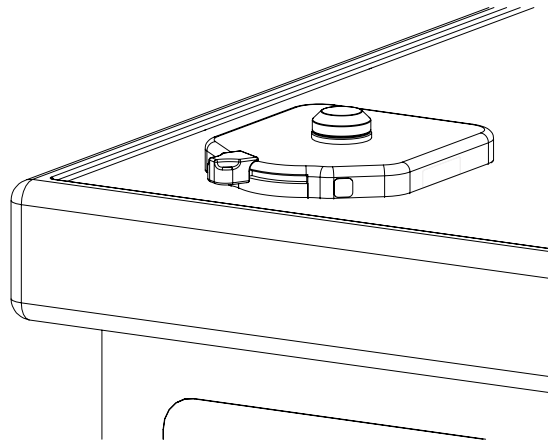

Figure 14: Installation of the Universal Mounting Base on a counter top/crash cart
4. Remove the drilling template and drill four (4) holes perpendicularly, using a drill and 13/64 in. D drill bit.
7. Place the Universal Mounting Base on top of the installation surface (Figure 14), align the drilling holes, then tighten the four (4) 10-32 in. stainless steel screws coated with medium strength thread lock adhesive (🔩) from under the installation surface in a cross-pattern using the appropriate screwdriver.